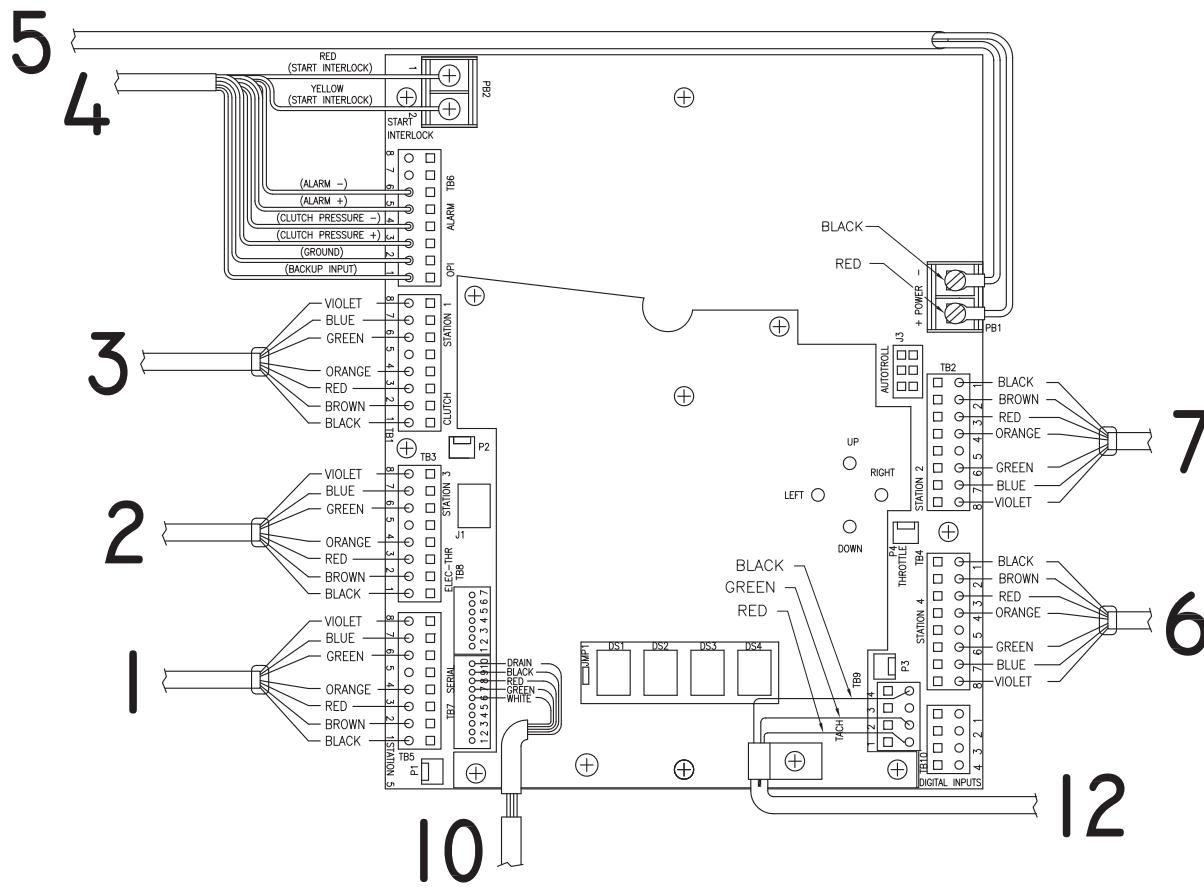

Figure 4-6: Processor Circuit Board Termination Points
- G Connect the two-conductor cable to PB2, red lead to the terminal labeled (1) and yellow lead to the terminal labeled (2), as indicated on Figure 4-6: Processor Circuit Board Termination Points.